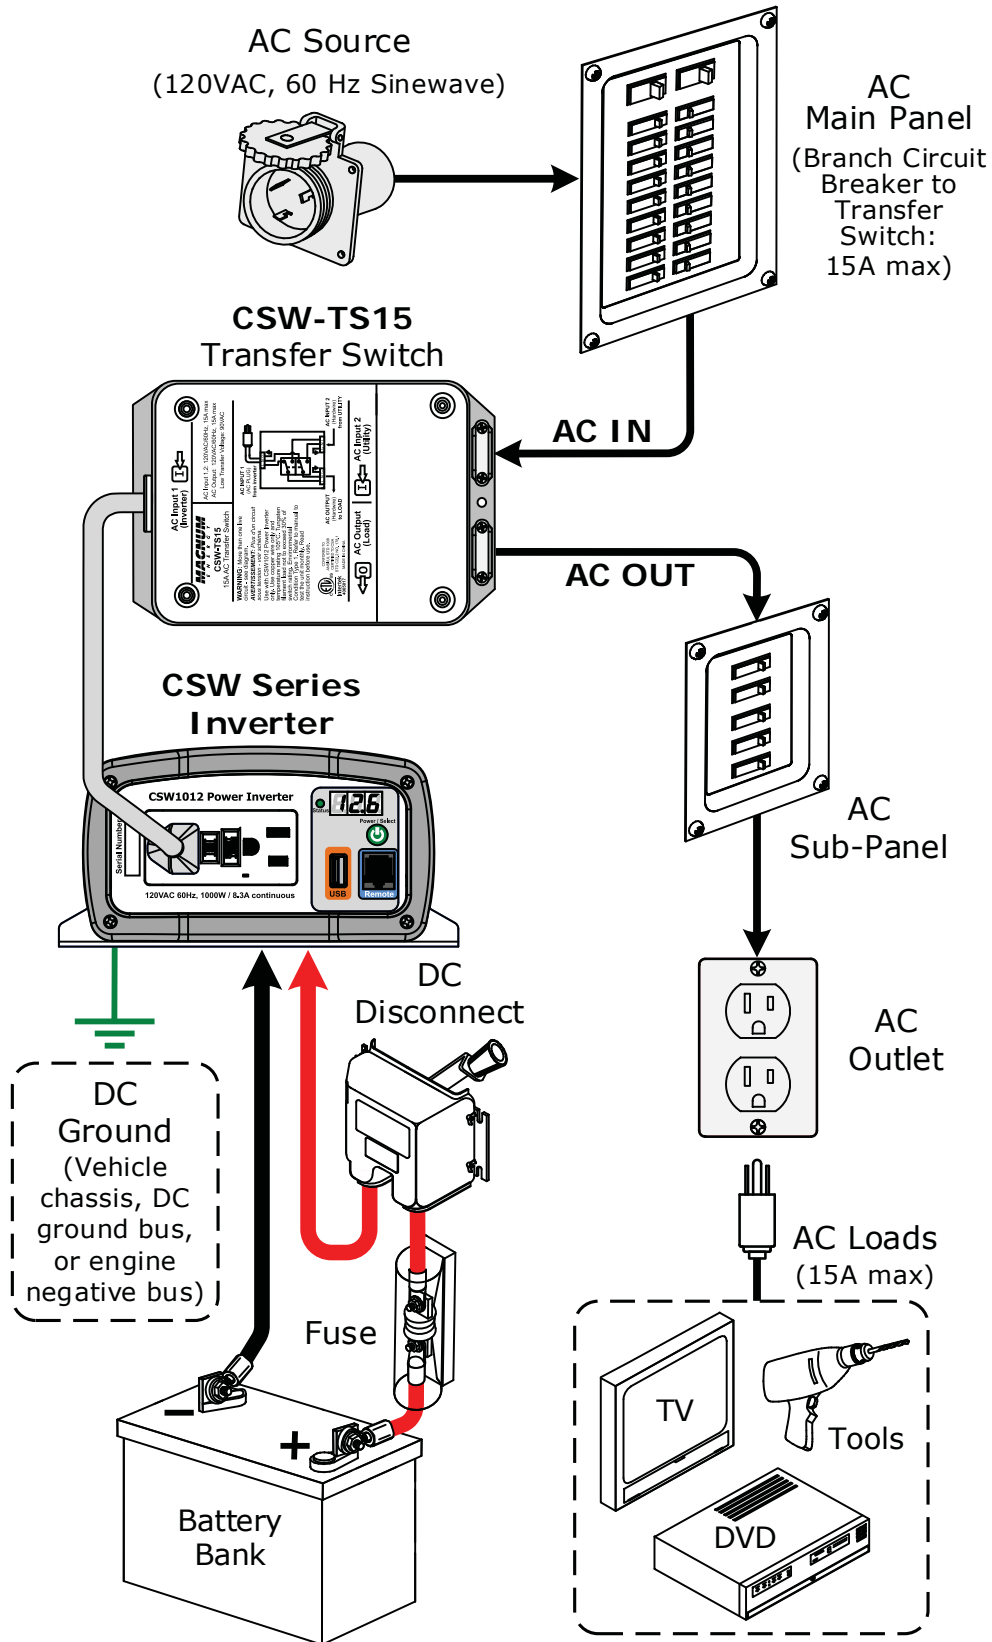
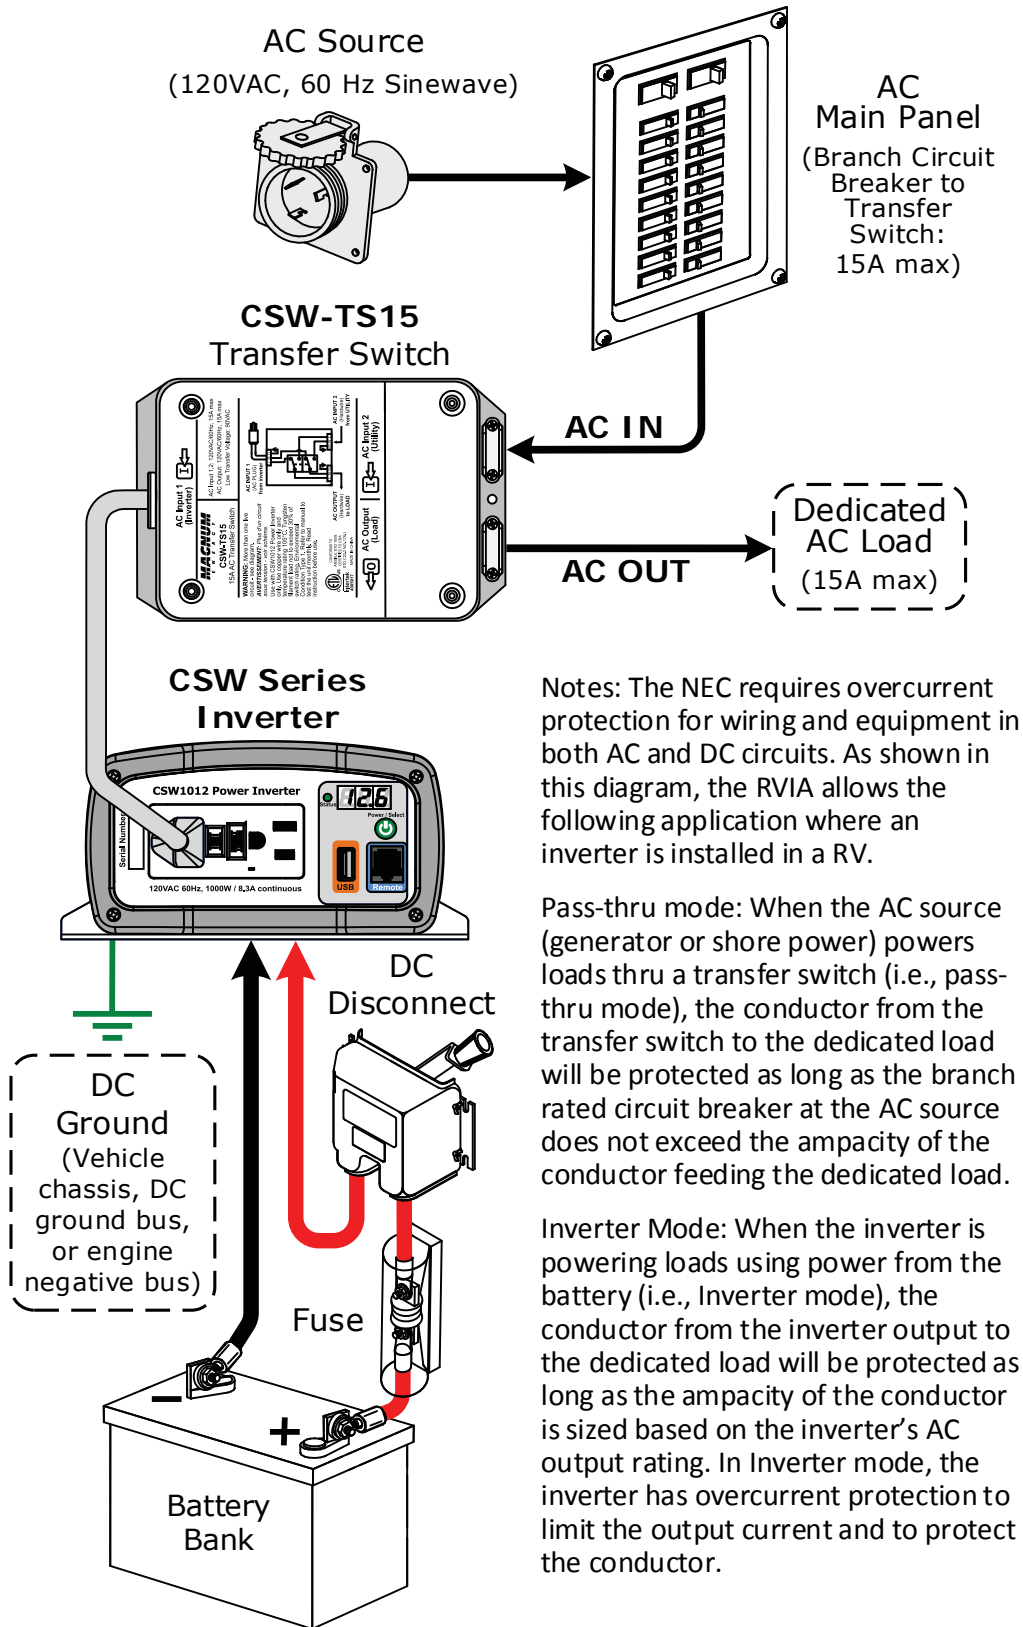

Figure 2-1, Basic System Diagram
Figure 2-2, RV OEM System Diagram
Before proceeding, read the entire Installation section to determine how best to install your CSW Series inverter. The more thorough you plan in the beginning, the better your inverter needs will be met. Depending on your application, there are simplified system diagrams shown in Figure 2-1 and Figure 2-2. These should be reviewed to assist you in planning and designing your installation. These drawings are not intended to override or to restrict any national or local electrical codes, and should not be the determining factor as to whether the installation is compliant, that is the responsibility of the electrician and the onsite inspector.
4. Connect a short wire (same rating as the DC wires) to the other side of the DC circuit breaker (or one end of the fuse/disconnect assembly) and the other end of that short wire to the positive terminal of the battery bank (see Figure 2-1 or Figure 2-2 for reference). This is essential to ensure even discharging across the entire battery bank.